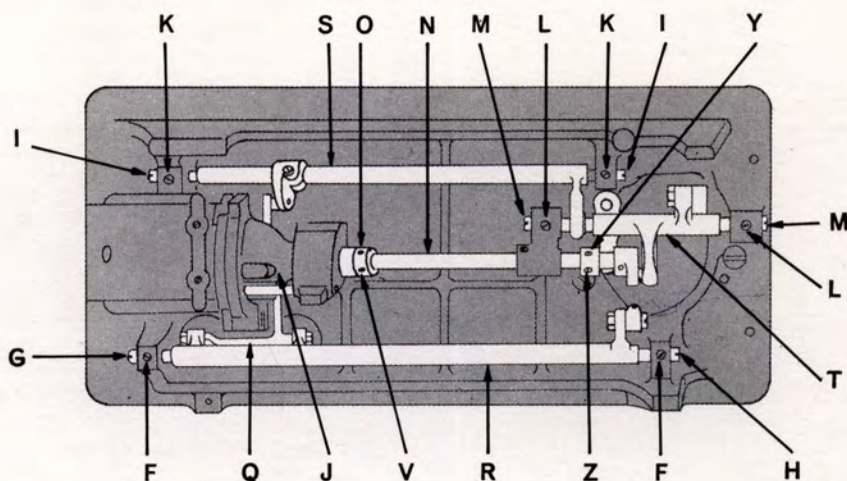
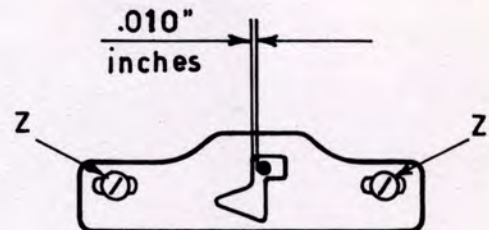

Fig. 12. Setting Feed Dog Sidewise and Adjusting for End Play or Binding.
Fig. 13A. Position of shuttle Race CAP in relation to the needle.
**SETTING: (See fig. 12)**
SETTING: (See Fig. 12 page 7)
The shuttle point should come as close as possible to the small groove side of the needle without touching the needle. Clearance between needle and front edge of shuttle race cap should be approximately .010 inches, see fig. 13A.
SETTING: (see fig. 12 pag. 7, fig. 30 pag. 20 and fig. 13A.)
4. Loosen screw Z, fig. 13A
SETTING: (See Fig. 12 pag. 7)